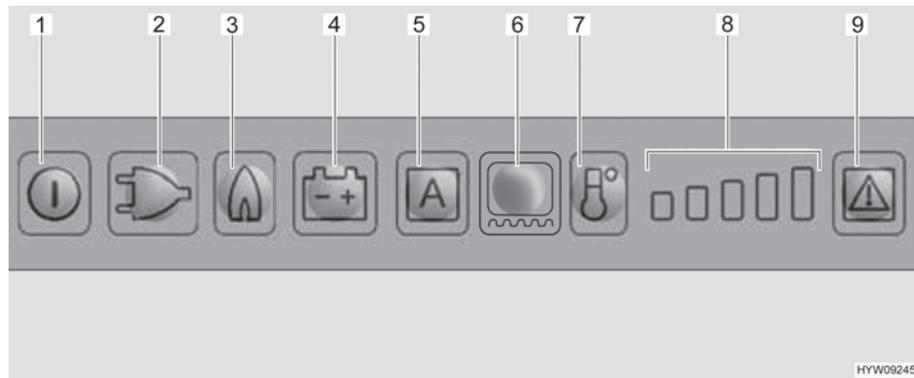

Fig. 184 LED operating panel (Dometic refrigerator)
When selecting gas operation the ignition fuse is opened automatically so gas can get into the burner. At the same time the electronic ignition is activated. If the gas flame is extinguished, e.g. by blast of wind, the ignition is activated immediately and re-ignites the gas. If there is a fault in gas operation, the illuminated buttons for Gas (Fig. 184,3) and Fault (Fig. 184,9) flash and an alarm sounds for 20 seconds.
- Press and hold the On/Off button (Fig. 184,1) for about 2 seconds. The refrigerator switches on and the previously set operating mode is displayed.
- Press the illuminated button for the desired operating mode (Fig. 184,2 - 4) or the automatic mode "AES" (Fig. 184,5) (only in the case of AES version).
- Use the cooling level button (Fig. 184,7) to set the refrigerating temperature. The cooling level indicator (Fig. 184,8) shows the selected thermostat setting.
- Press and hold the On/Off button (Fig. 184,1) for about 2 seconds.
When turned on the first time the refrigerator automatically selects the middle thermostat position. This position can be adjusted manually using the cooling level button (Fig. 184,7). It takes a few hours till the refrigerator reaches its normal operating temperature. When changing over to another operating mode, the thermostat setting is kept.
- Switch on the frame heater for a 2 hour period: Push the frame heater illuminated button (Fig. 184,6) once. One bar is lit on the cooling level indicator (Fig. 184,8).
- Switch on the frame heater for a 5 hour period: Push the frame heater illuminated button (Fig. 184,6) twice. Two bars are lit on the cooling level indicator (Fig. 184,8).
- Setting frame heater for continuous operation: Push the frame heater illuminated button (Fig. 184,6) three times. Three bars are lit on the cooling level indicator (Fig. 184,8).
The cooling level indicator (Fig. 184,8) shows the operating time of the frame heater for several seconds.
In the event of a fault, the illuminated Fault button (Fig. 184,9) will flash. Also, either one of the illuminated buttons for operating mode or the cooling level indicator will flash. In addition, a warning signal will sound. For instructions on the display of errors and troubleshooting, see chapter 15.
- ▷ After eliminating a fault of the gas operation, press the illuminated Reset button (Fig. 184,9).